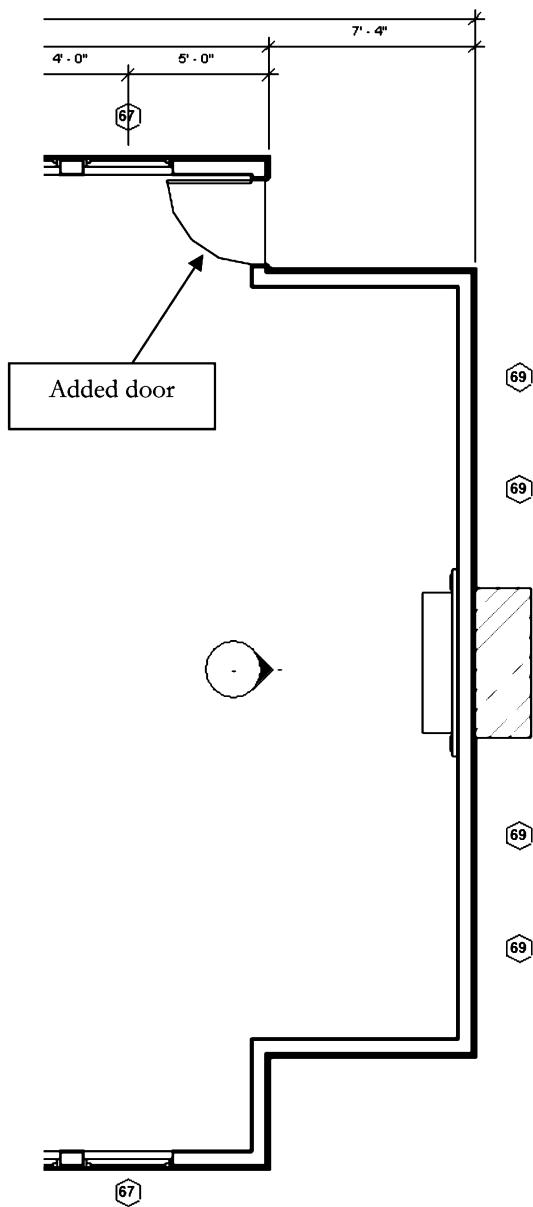

FIGURE 10-4.3 First Floor plan with changes
9. Switch to the ***First Floor Plan*** view (Figure 10-4.3).